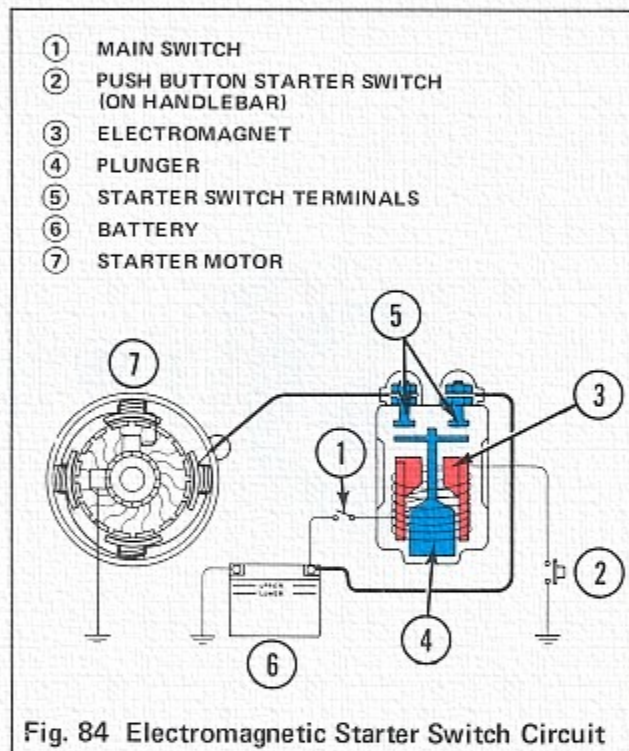

Fig. 84 Electromagnetic Starter Switch Circuit
The starter motor draws about 120 amperes of current when cranking the engine. Heavy electrical cable and a heavy-duty switch are required to properly handle the current. It would not be practical to run heavy cables up to the handlebar and install a large, heavy-duty switch there. Instead, a small push button switch on the handlebar activates an electromagnetic starter switch (Fig. 84) that connects the battery to the starter motor. The electromagnetic starter switch is mounted on the motorcycle frame, near the battery.
When the main switch ① (Fig. 84) is turned on, and the starter button ② is depressed, current flows from the battery ⑥ through an electromagnet ③ within the starter switch. The electromagnet draws the plunger ④ into contact with the terminals ⑤ of the starter switch, completing a circuit between the battery ⑥ and starter motor ⑦.